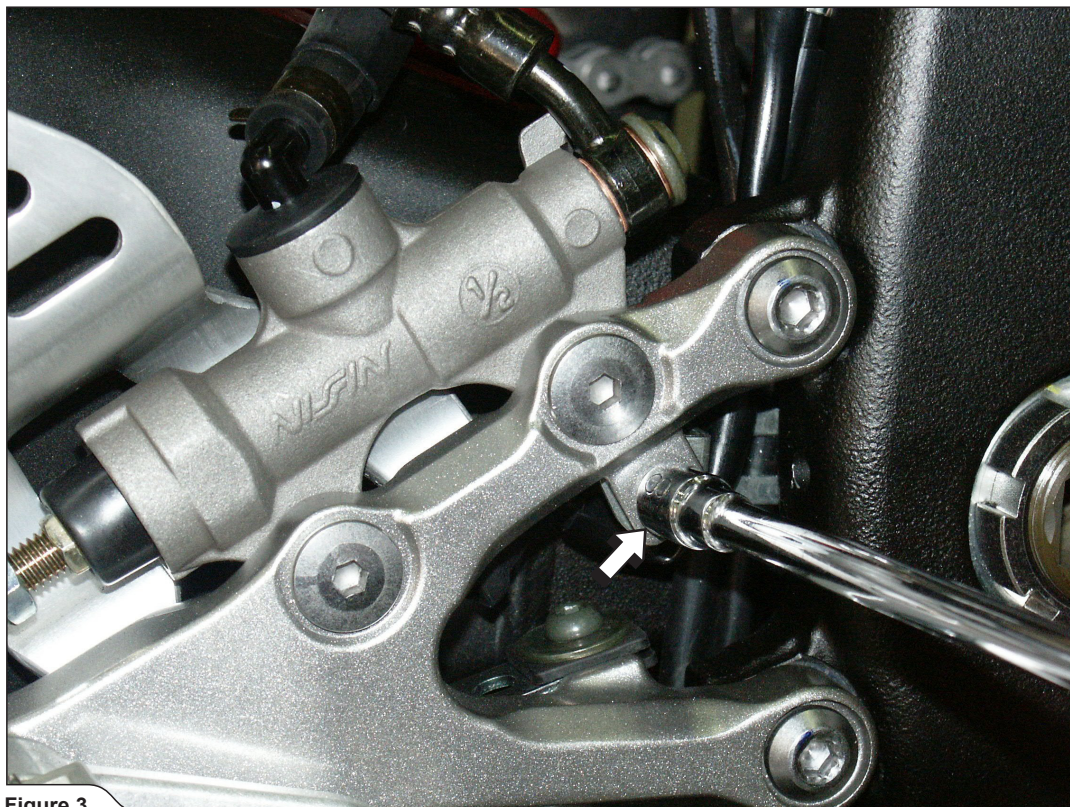

Figure 3
4. **For Slip-On Open and Slip-On Megaphone only:** unscrew the marked cable bracket (**Figure 3**).